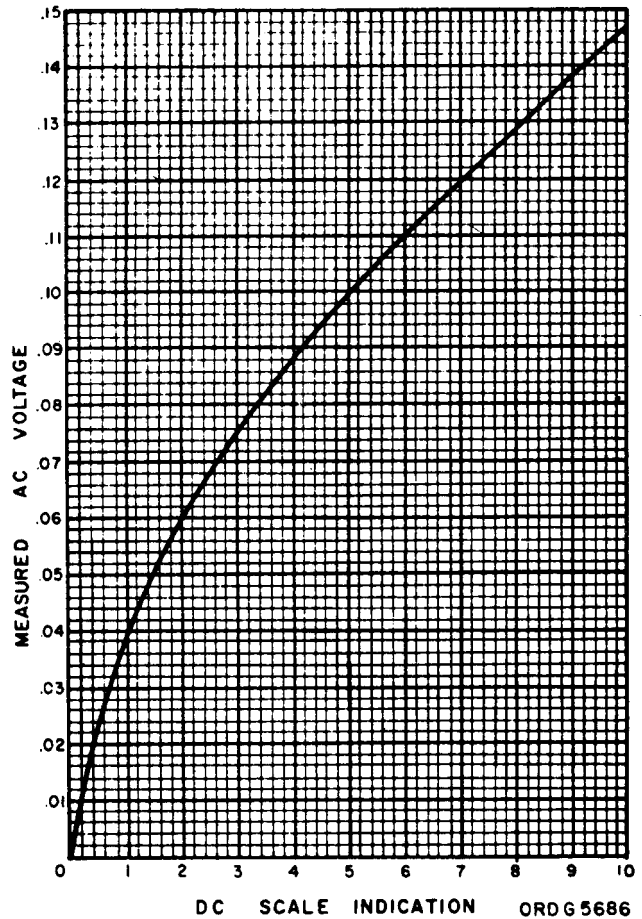

Figure 10. Measured ac voltage vs dc scale indication in the digital mode, with a digit wheel setting of 1 0 0, and in the 1 volt ac range
- e. Read from the curve of figure 10 the measured ac voltage value which corresponds to the obtained dc scale indication value.
e. Read from the appropriate curve in figure 10 or 11 the measured ac voltage value which corresponds to the obtained dc indication value.